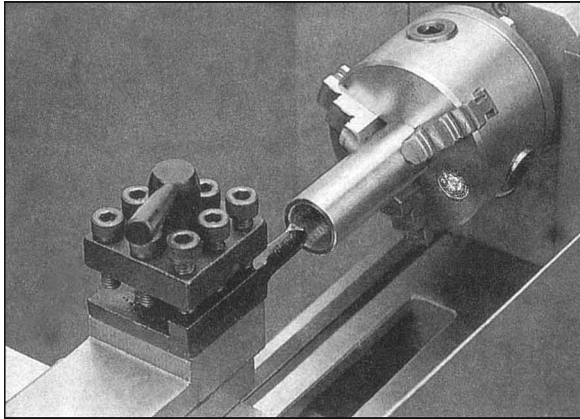

Fig 15
3. By changing the tool post angle and adjusting the compound rest, you can do internal cutting (figure 15).